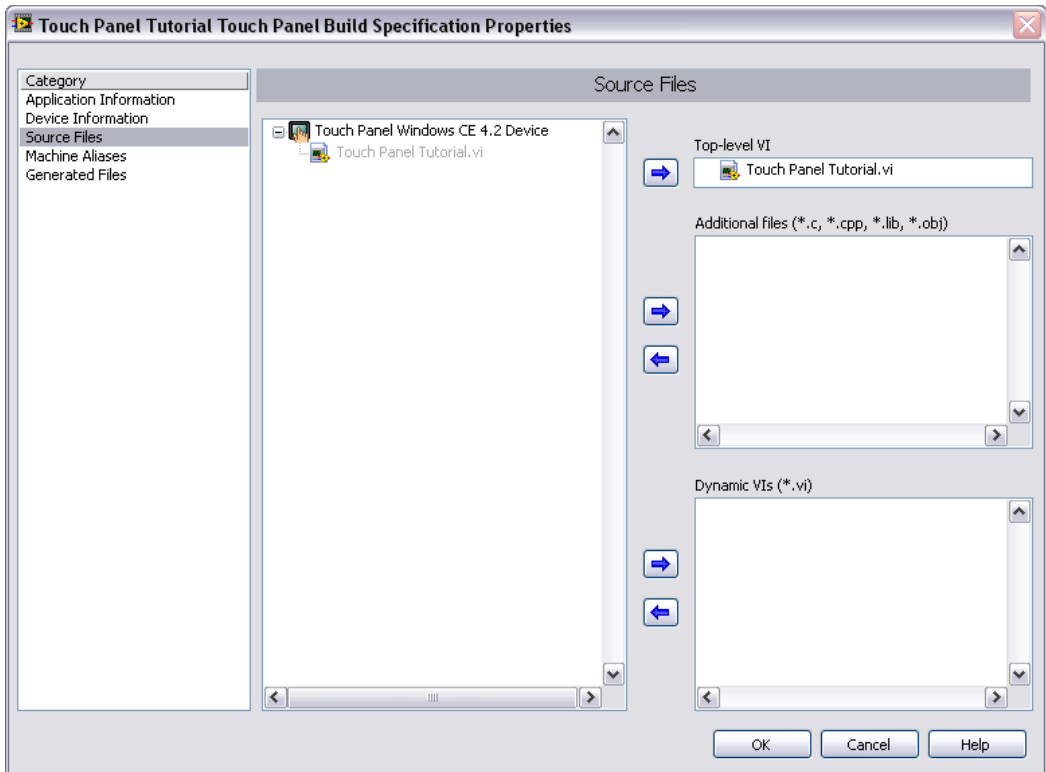

Figure 5. Selecting the Source Files
4. Select the **Source Files** category to select the source files to include when you build the Touch Panel VI into a Touch Panel application. When you use the Touch Panel Project Wizard to create a build specification, LabVIEW automatically uses the VI you import as the top-level VI. When you create build specifications outside of the wizard, you must manually select the top-level VI and click the blue arrow button, shown at left, to move the VI to the **Top-level VI** text box as shown in Figure 5. Touch Panel applications can have only one top-level VI.